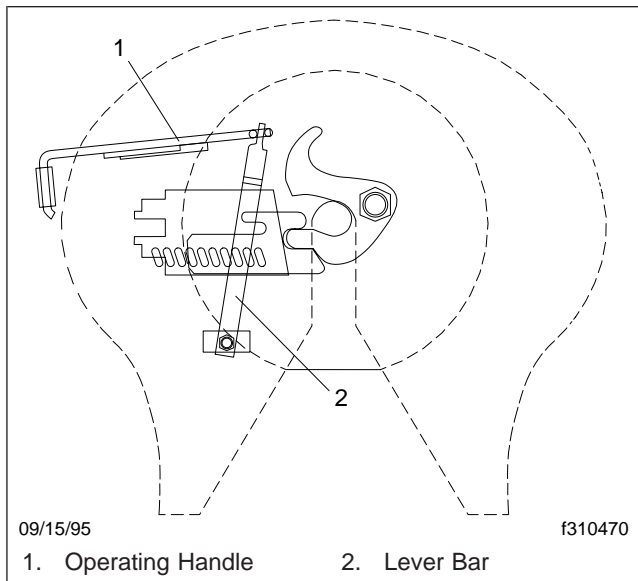

Fig. 4, Lever Bar and Operating Handle Alignment
5. The lever bar and operating handle must be in proper alignment. See Fig. 4. Compare the lever bar and operating handle alignment to a new, or a properly operating lever bar and operating handle. Replace any bent or misaligned lever bar or operating rod.